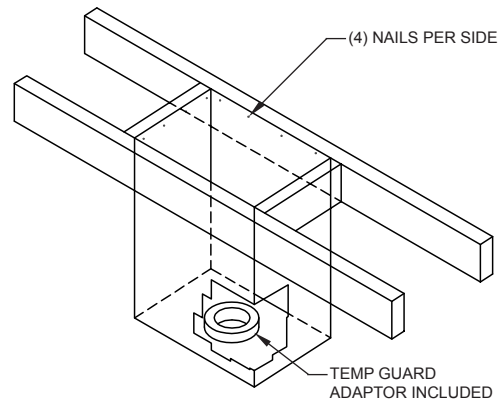

FIG. 9
2. Using framing lumber equal to ceiling joist size, frame opening as shown in FIG. 9. Framing that is perpendicular to the roof joists must also be vertically mounted so that support can be installed vertically.